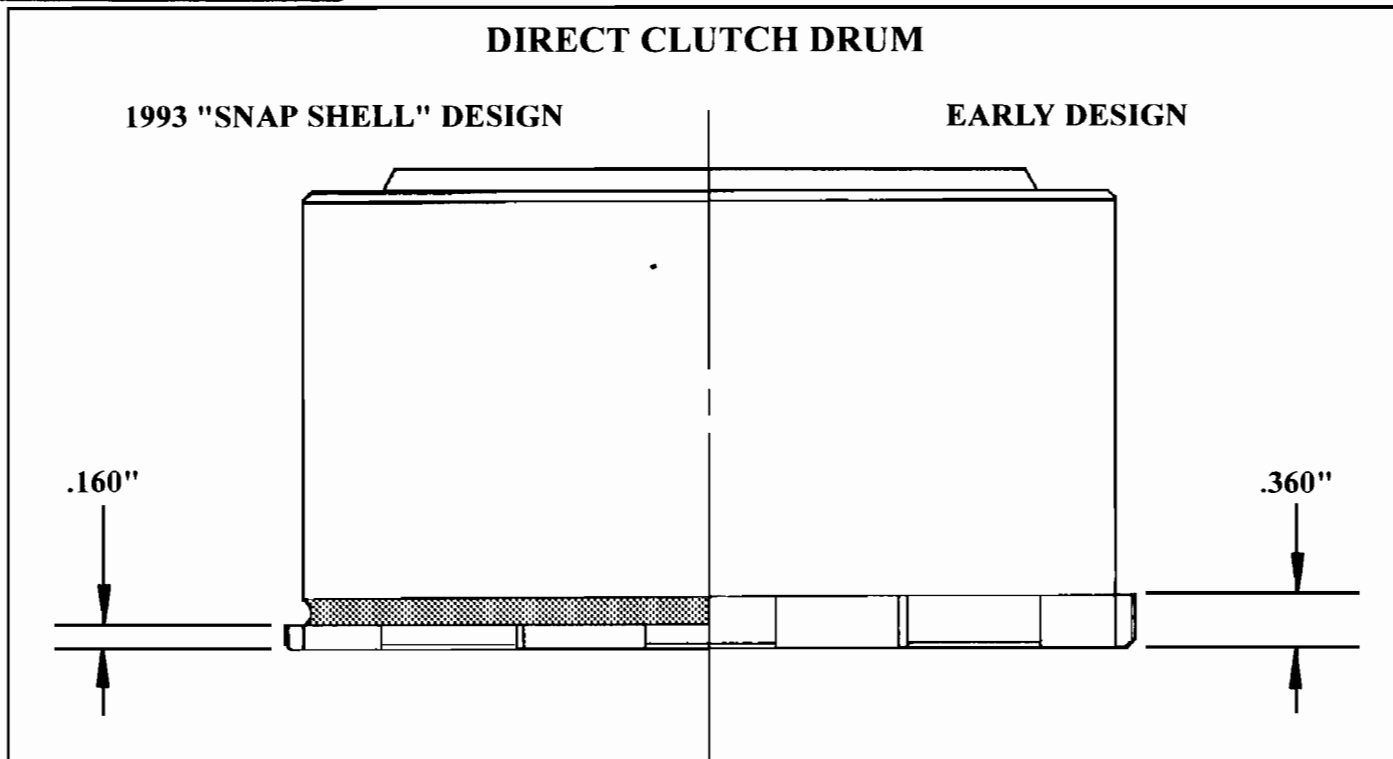
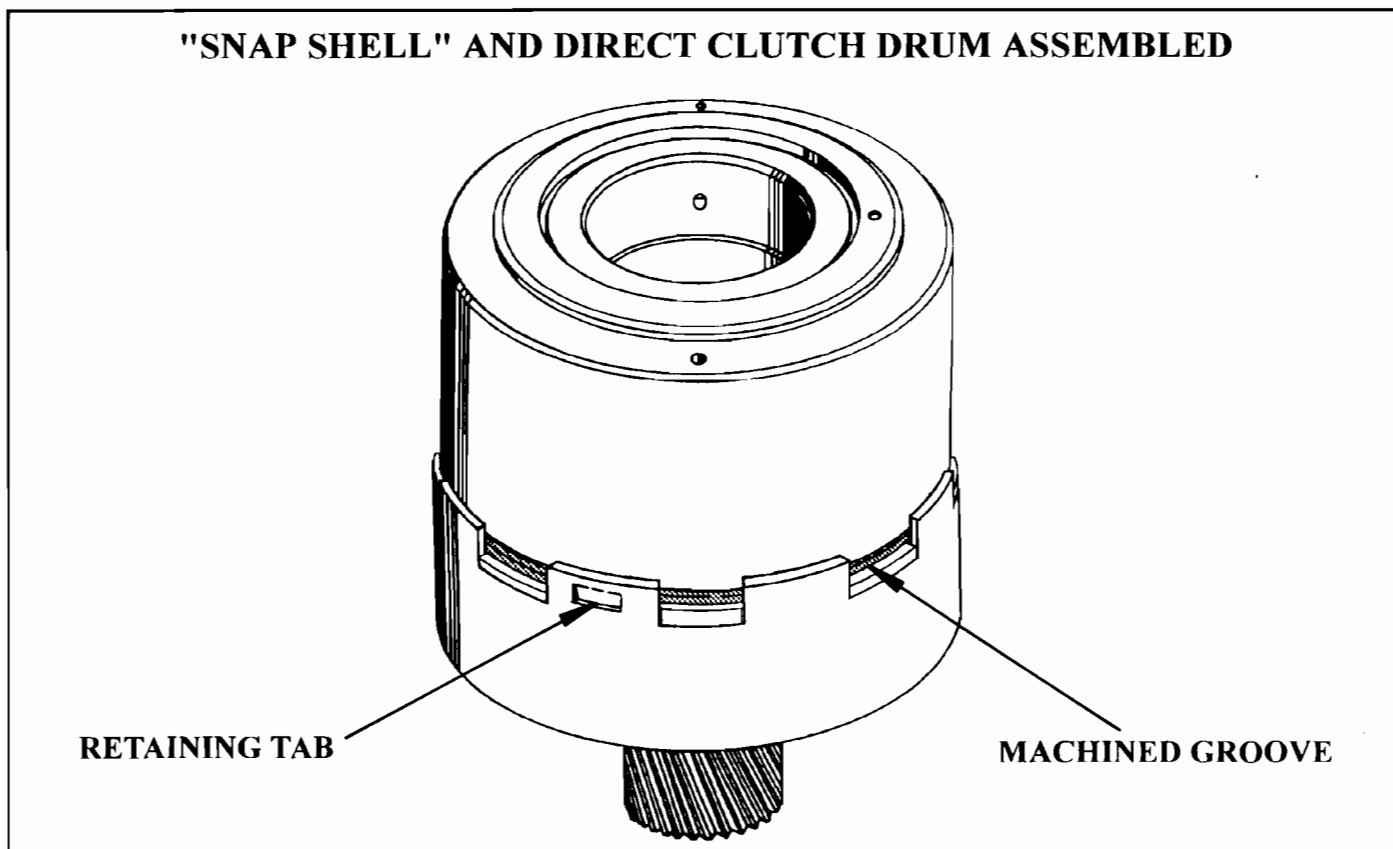

Figure 15
Figure 16
- (3) **DIRECT CLUTCH DRUM** - The "Lug" area where the direct clutch drum engages the sun gear shell, was machined approximately .200" thinner, and a .050" deep groove was machined into the drum to accommodate the added retaining tabs on the "Snap Shell" (See Figure 15). This now allows the sun shell and the direct drum to "Snap" together for easier assembly (See Figure 16). This change also allows the elimination of the number 4 thrust washer, located between the direct clutch drum and the center support.
- (3) The new design "Snap Shell" **must be used only** with the direct clutch drum that is machined to accept the retaining tabs (See Figure 15).
- (4) The direct clutch drum **WITH** the machined groove for the "Snap Shell" **WILL** retro-fit back to **ALL** previous models (See Figure 15).